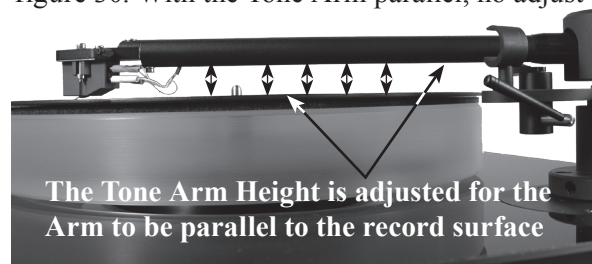

Figure 30
1. Release the Tone Arm from the Tone Arm Rest, place it on a record and check to see if the Tone Arm is parallel to the surface of the record. Refer to figure 30. With the Tone Arm parallel, no adjust-
3. Release the Tone Arm from the rest and place it on a record and check to see if the Tone Arm is now parallel. Also check to make sure the Tone Arm is parallel to the record platter and the right side of the turntable base. Refer to figure 30.